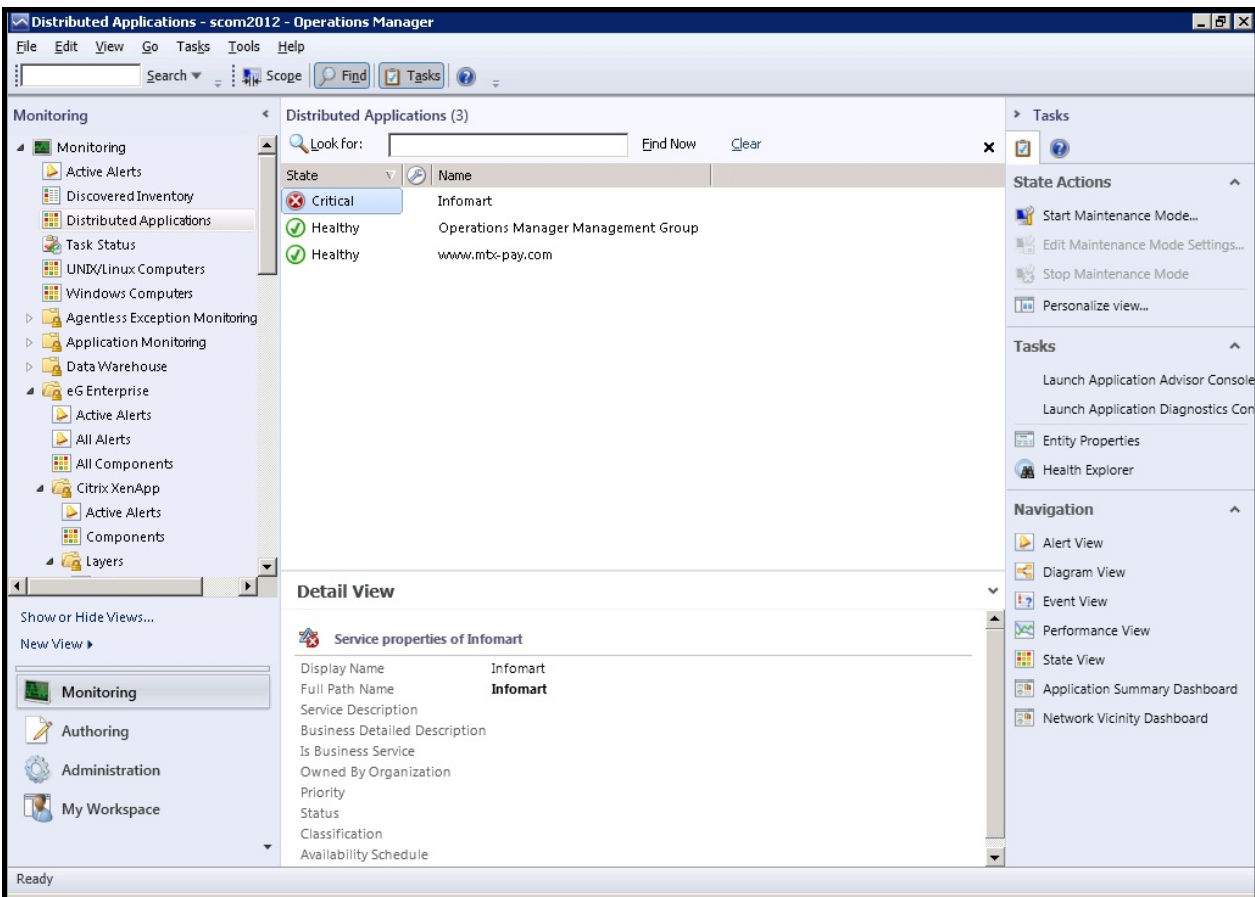
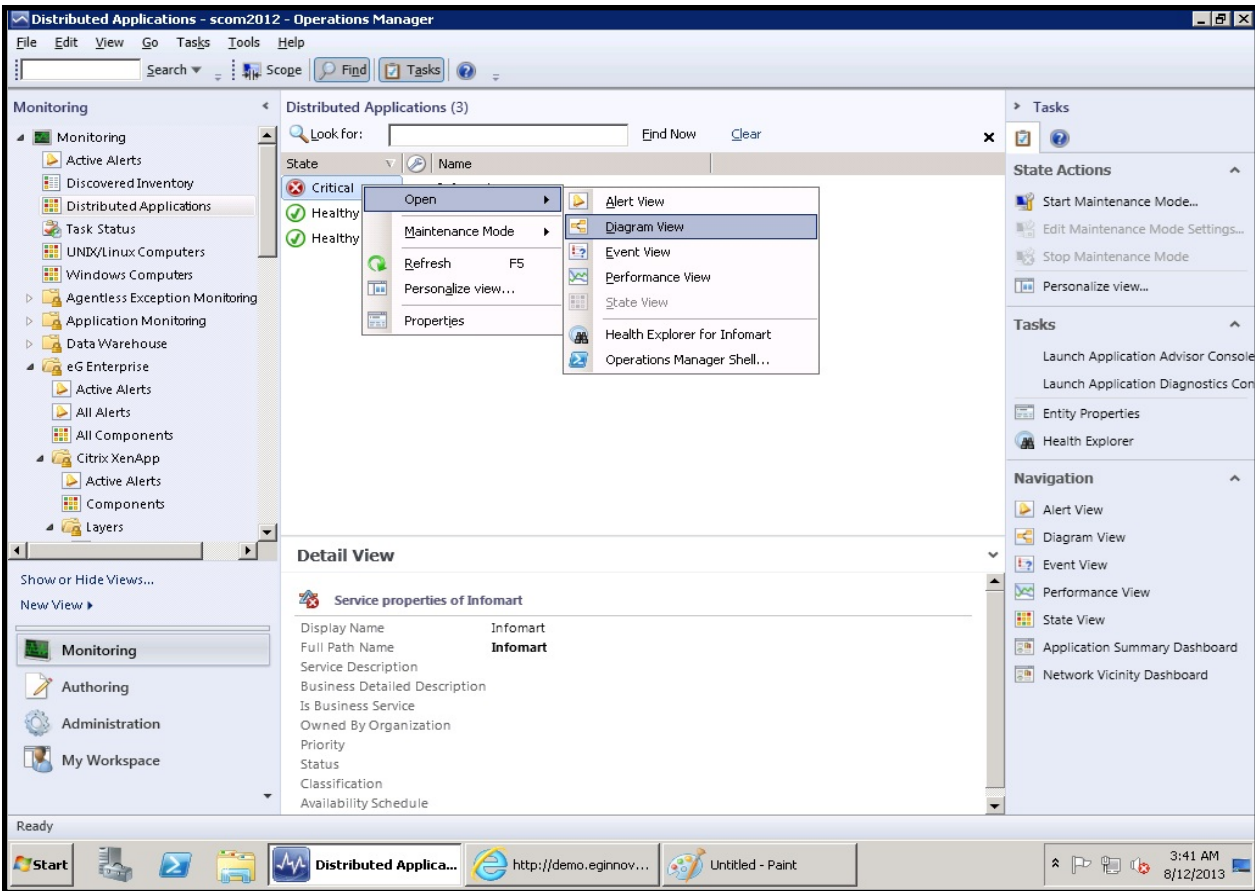

Figure 4.38: Viewing the state of the Infomart distributed application in the Monitoring mode
Figure 4.39: Accessing the topology map of the Infomart application in the Monitoring mode
13. With that, the topology of the distributed application has been fully configured. Once eG Enterprise is integrated with SCOM, the SCOM connector updates the state of the distributed application and its member components based on state computations performed in eG. To view the current state of the *Infomart* application, move to the **Monitoring** view, by clicking on the **Monitoring** tab page indicated by Figure 4.38. Then, click on the **Distributed Applications** sub-node in the **Monitoring** tree-structure in the left panel of Figure 4.38.
14. The right panel of Figure 4.38 will then display all the **Distributed Applications** that have been configured and their current state. From Figure 4.38, it is evident that the *Infomart* application is in a **Critical** state. To know which component engaged in the delivery of the *Infomart* application is responsible for this **Critical** problem, view the topology map of the *Infomart* application. For this, right-click on the **State** of that application (which is currently, **Critical**), and follow the menu sequence: Open -> Diagram View (see Figure 4.39).